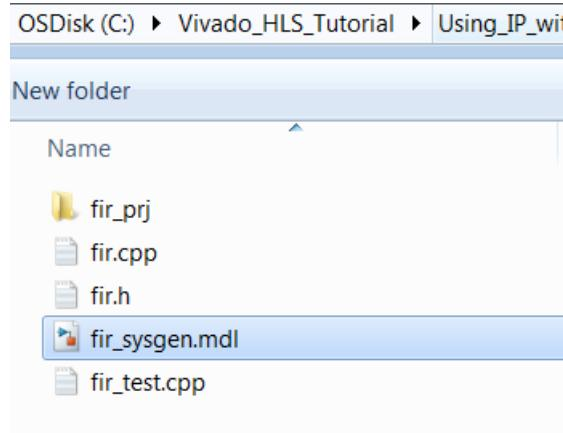

Figure 253 Select File fir_sysgen.mdl
3. Navigate to the tutorial directory Vivado_HLS_Tutorial\Using_IP_with_SysGen\lab1 and select the file fir_sysgen.mdl (Figure 253).